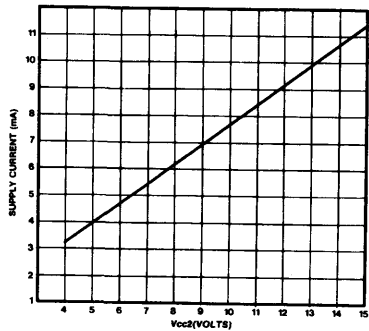

Fig.5 Supply current v.  $V_{cc2}$  ( $I_p = 0$ )
- $V_{cc2} \text{ Diss}$  = dissipation obtained from graph (Fig.5)